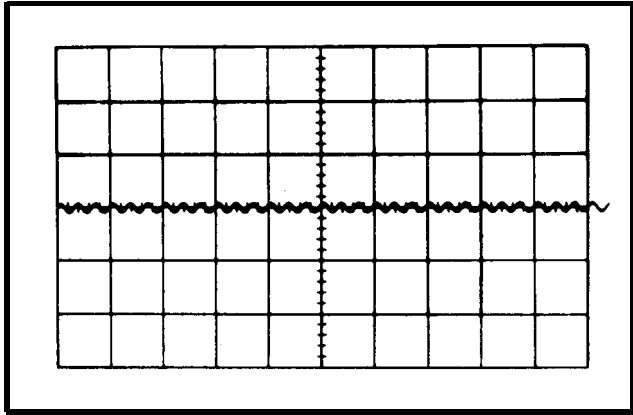

Fig. 6-35. Typical CRT display when checking low-frequency reject operation at 30 kilohertz.
- c. CHECK-Stable CRT display (see Fig. 6-35) can be obtained with the A LEVEL control.
- i. CHECK-Stable CRT display (see Fig. 6-35) can be obtained with the B LEVEL control.